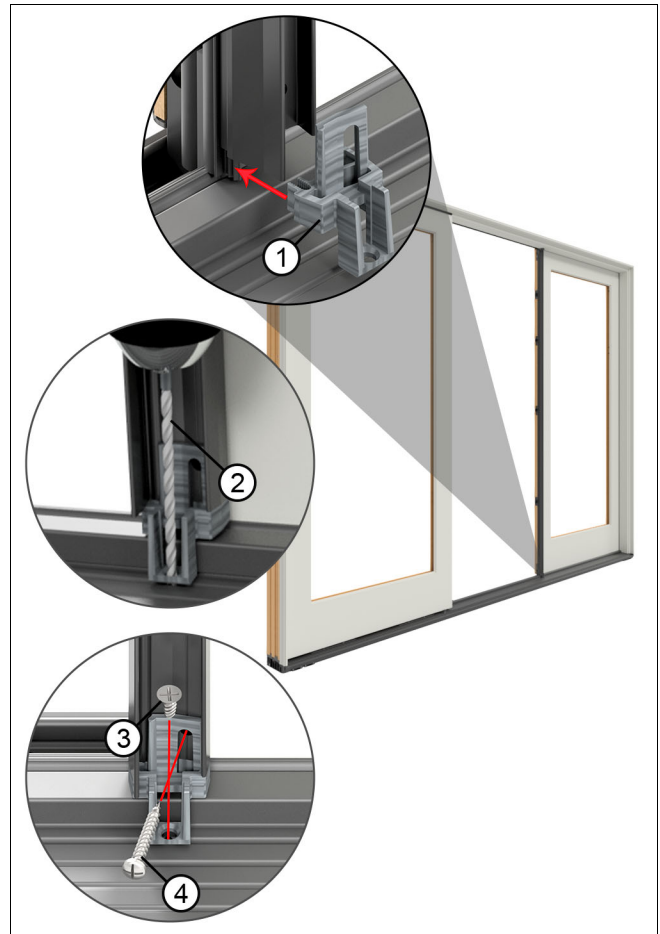
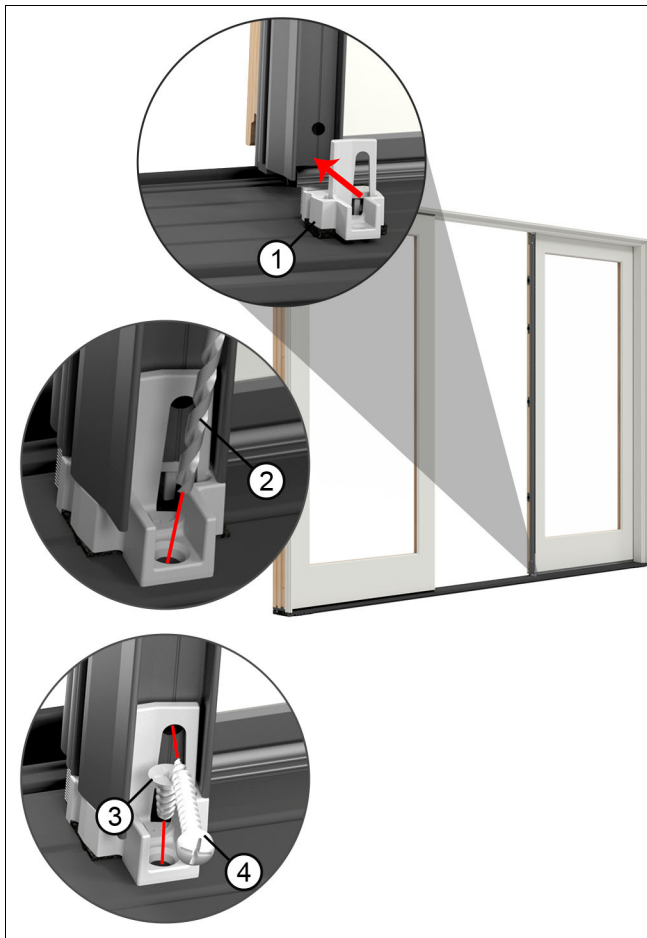

Figure 46 Performance sill
Figure 47 Accessibility sill
20. Install the sill mull end bracket by aligning it into the mull base, then sliding it down to rest against the sill. Pre-drill with a 1/8" drill bit through the top wall of the sill and fasten with a #8 x 3/8" flat head screw into the bottom of the mull base and sill. Fasten to the panel with a 3/8 x 1 1/4" pan head screw. See Figure 46 for performance sill and Figure 47 for accessibility sill.